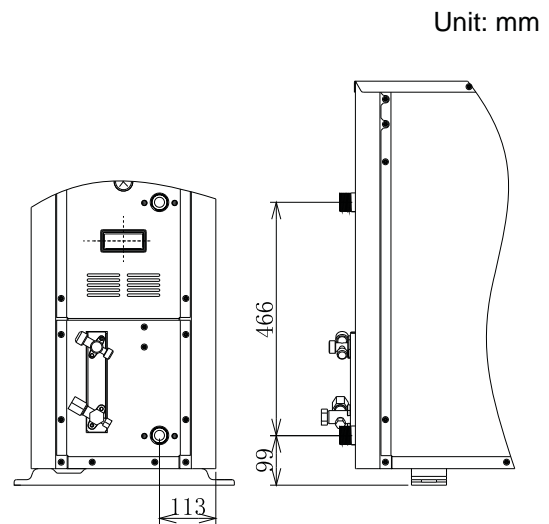

Fig. 4.5 Position of water pipe connection
- (3) Install the outdoor unit in the front-rear and right-left direction horizontally. Check to ensure that the gradient in four directions (front, rear, right, left) is within 10mm.
- (4) Provide a strong and correct foundation so that:
- (5) In case of the drain pipe is necessary for the outdoor unit, use the drain kit ($\Phi 18\text{mm}$).
- (6) The connection position of the water pipe is shown in Fig. 4.5.